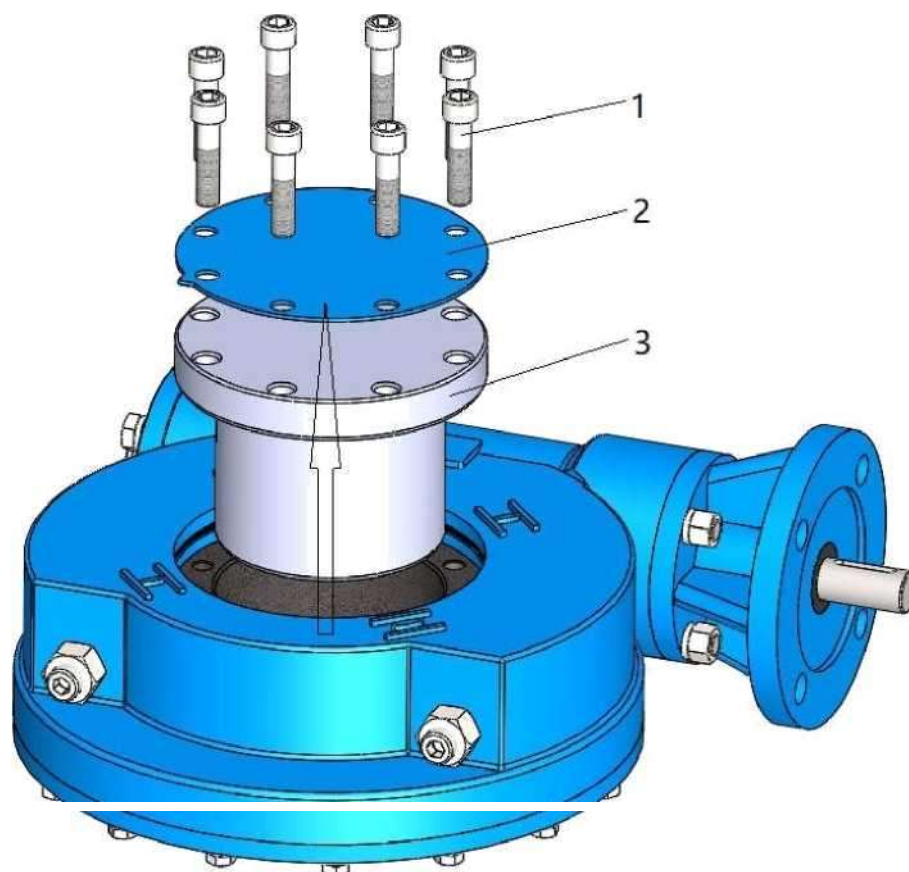
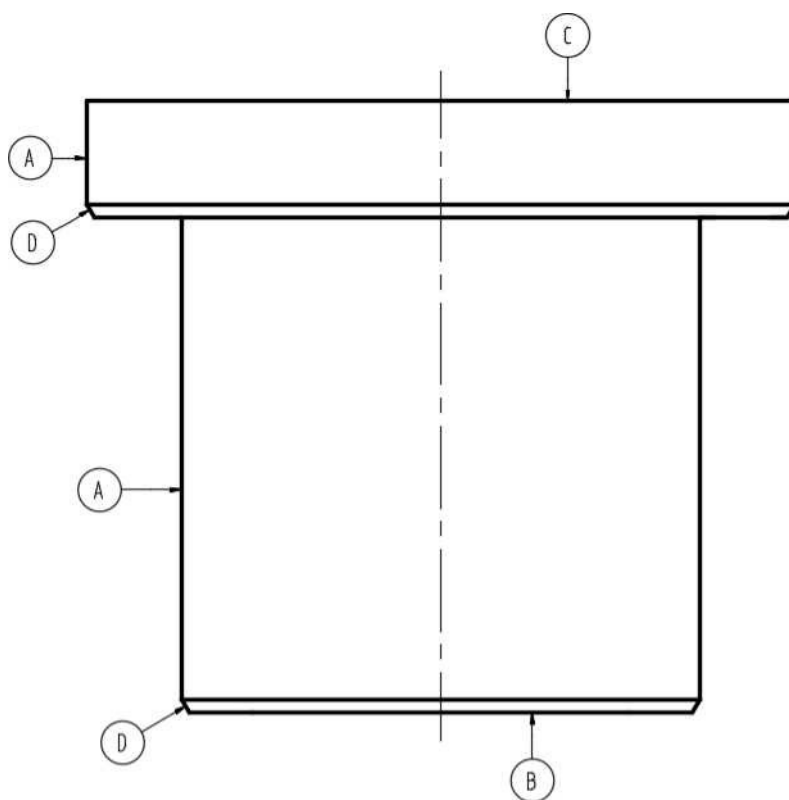

Figure 1 ASNG50/D~SG80/7+ASNG25000/D
Figure 5 Drive Sleeve
2. Disassembly steps (as shown in Figure 1):
- a. Loosen the fastening bolts (1) and remove all fastening bolts.
- b. Remove the indicator cover (2).
- c. Take out the drive sleeve (3) in the direction indicated by the arrow. It should be noted that when removing the drive sleeve (3) from the gearbox, it may be necessary to apply external force to the surface marked "B" on the drive sleeve (see Figure 5), but try to avoid direct tapping with steel products. Wood or plastic can be used as cushion blocks, or copper products can be used to directly strike.
When machining the drive sleeve, it should be noted that the surface marked with "A" is the sealing surface, and the surface marked with "D" is the guiding surface (see Figure 5). When clamping the "A" surface, try to use soft clamping claws and be careful not to damage the clamping surface. At the same time, it should be ensured that the machining inner hole is concentric with the outer circle to avoid damage to the gearbox or valve stem caused by non concentric machining.
2. The surface marked "A" in Figure 5 should be checked for damage. Damaged surfaces can damage the gearbox seals and cause water or grease leakage.
If the above components are inspected and found to be correct, they can be installed in sequence as shown in Figure 1 (3), (2), and (1).
When assembling the indicator cover (2), it is recommended to apply silicone seal on the surface marked "C" (see Figure 5)